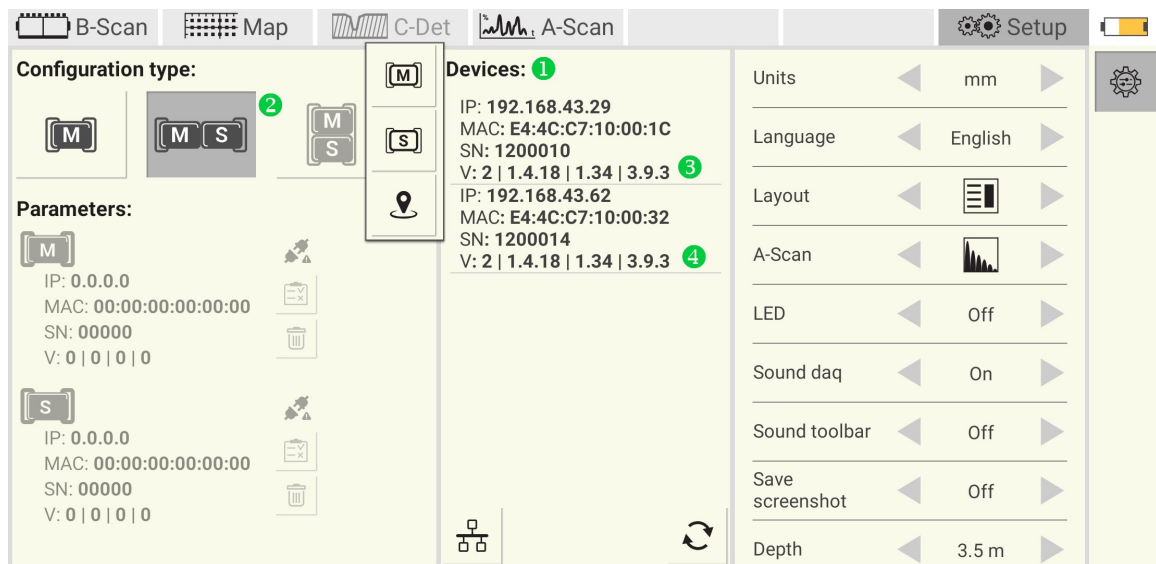

Figure 23: A1040 MIRA 3D PRO configuration
Switch on the tomograph, establish the connection to the hotspot and start the app. After the scan finishes, the device list ❶ shows all available devices. Select A1040 MIRA 3D PRO-configuration ❷ and tap on a device item ❸ or ❹ to assign the device as a master [M] or as a slave [S], Figure 23.